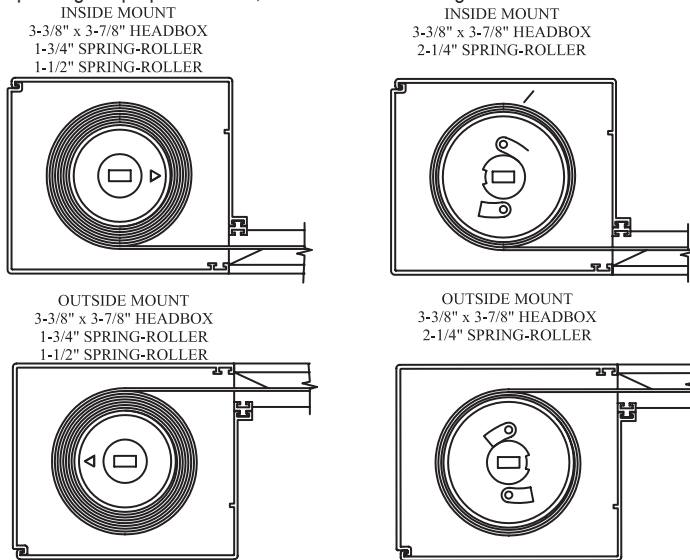

Figure 12
- For All:** Re-install the spring roller by generally reversing the steps in the "Installation Preparation" section. If mounting on an angle, consult Draper. Please consult Fig. 12 to ensure that the notch or arrow on the spring roller is pointing the proper direction, as noted in the drawings.